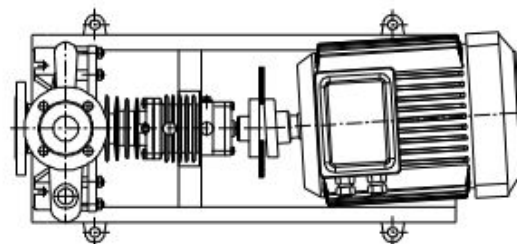

Fig. 4a Angle error in horizontal plane and to settle
- Alignment errors can be either on vertical plane or horizontal plane. On vertical plane alignment is corrected by inserting shims under the pump or motor foot, and on horizontal plane alignment is corrected by sliding the pump and/or motor horizontally sideways by using the gaps at mounting holes. *Fig. 4a, 4b, 4c, 4d* show alignment of coupling step by step.